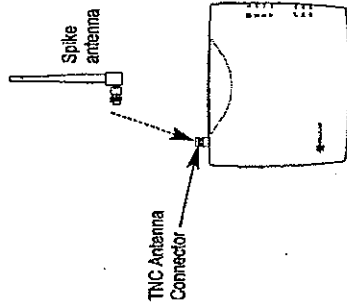
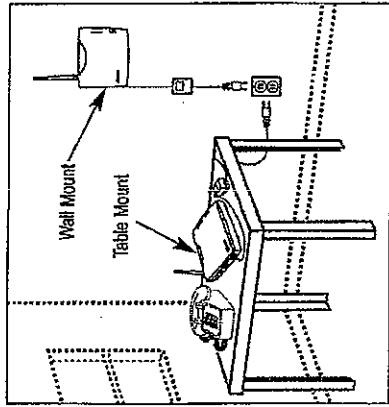

Figure 5 - SX5 antenna connection.
Figure 6 - Typical SX5 installation.
The SX5 comes with a standard spike antenna (TNC) - see Figure 5. For optimal signal strength, choose a location that is above ground and as close to windows (or exterior walls) as possible - see Figure 6. Cellular signal strength is displayed by the Received Signal Strength Indicator (RSSI) LED on the unit - See the "How to Use the LED Status Indicators" section of this manual.
1. Connect the antenna to the terminal - see Figure 5.